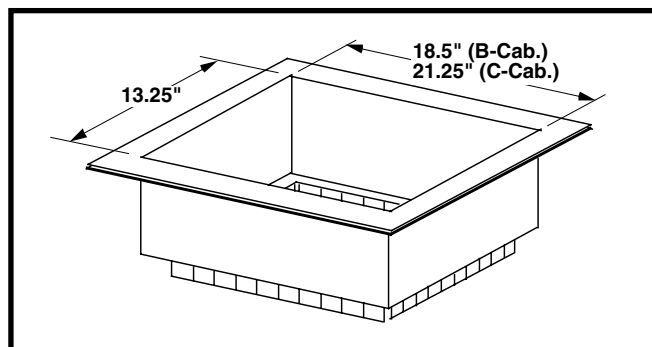

Figure 3. Plenum Adapter
1. Measure and mark the outline of the cut-out on the floor. See Figure 3 \(page 7\) for cutout dimensions.